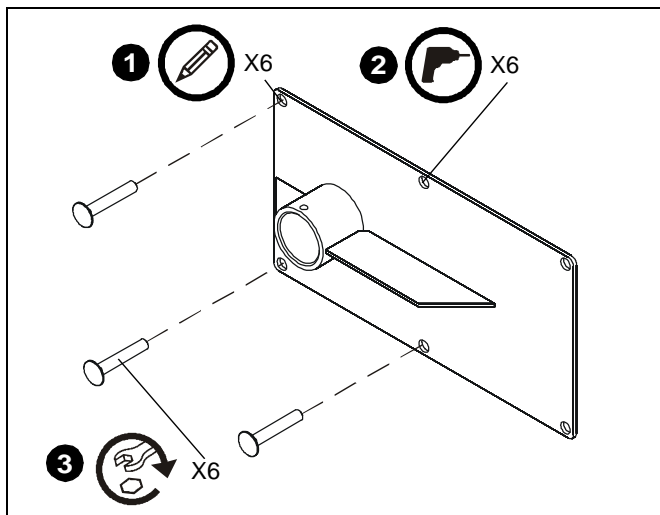

Figure 1
1. Mark the six mounting hole locations through the ceiling plate. (See Figure 1)
3. Use six fasteners (not provided) to mount the ceiling plate to the appropriate structural ceiling. The 1-1/2" NPT pipe must be pointing down. (See Figure 1)